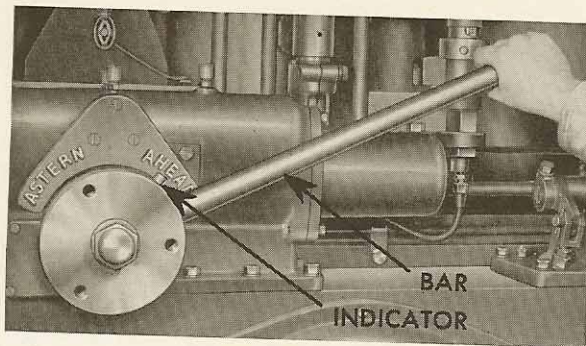

FIGURE 10-2
5. LATCH SHAFT POSITION: Insert a bar as shown in Figure 10-2 and turn latch shaft to AHEAD position. To check this position move the control handle into full-speed run-ahead position. If the latch shaft is not properly located, the control handle will not pass into the run position.